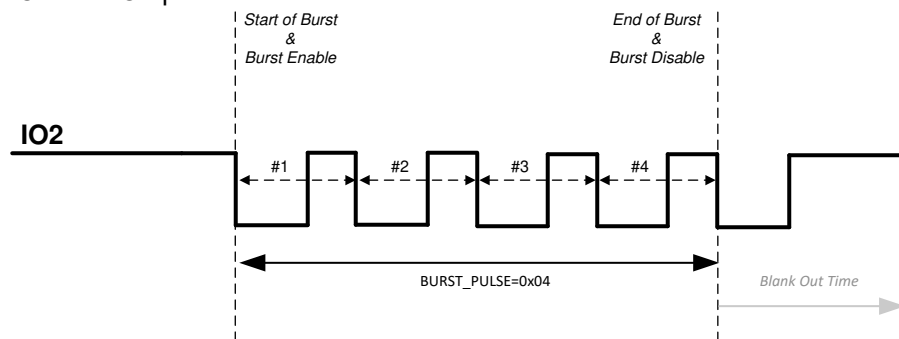

FIG 7-4. IO\_MODE 3 Description
- **IO\_MODE = 3:** In this mode, burst enable and start of burst are both triggered by the falling edge of IO2. TI recommends that IO2 pin is kept pulled up to VDD for this mode. The device then expects a clock at IO2 pin to generate pulses on the OUTA/OUTB pins (see FIG 7-4). The number of pulses are counted by counting falling edge to next falling edge transitions on IO2 once the start of burst is triggered. End of burst sequence is signaled when the number of pulses defined in **BURST\_PULSE** are sent. After end of burst, a blank-out timer interval defined by the **DRV\_PLS\_FLT\_DT** register is started to prevent triggering of a new start of burst in the event if the IO2 pin is still toggling. After the start of burst, the state of OUTA and OUTB pins are determined by IO1 and IO2 pins.